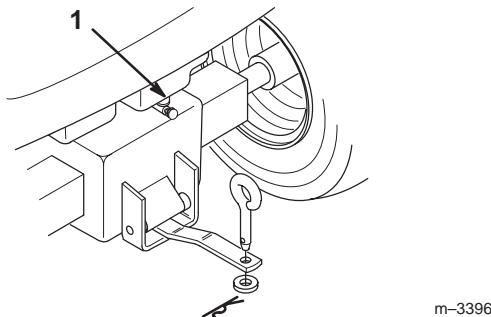

Figure 35
2. Close fuel shut-off valve at fuel tank (Fig. 35).